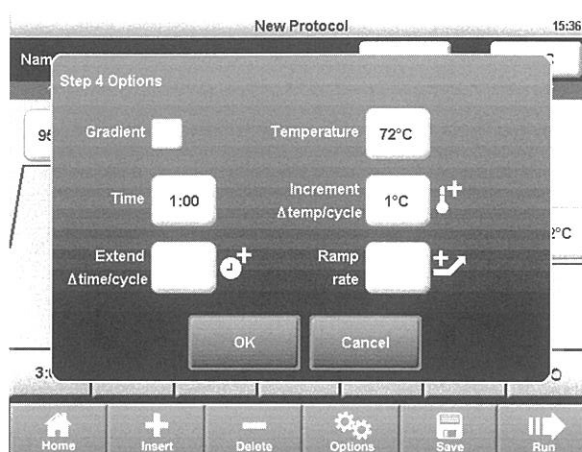

Figure 12. Step 4 has a temperature increment option.
1. Select a step and touch **Options** to open the **Step Options** window (Figure 12).